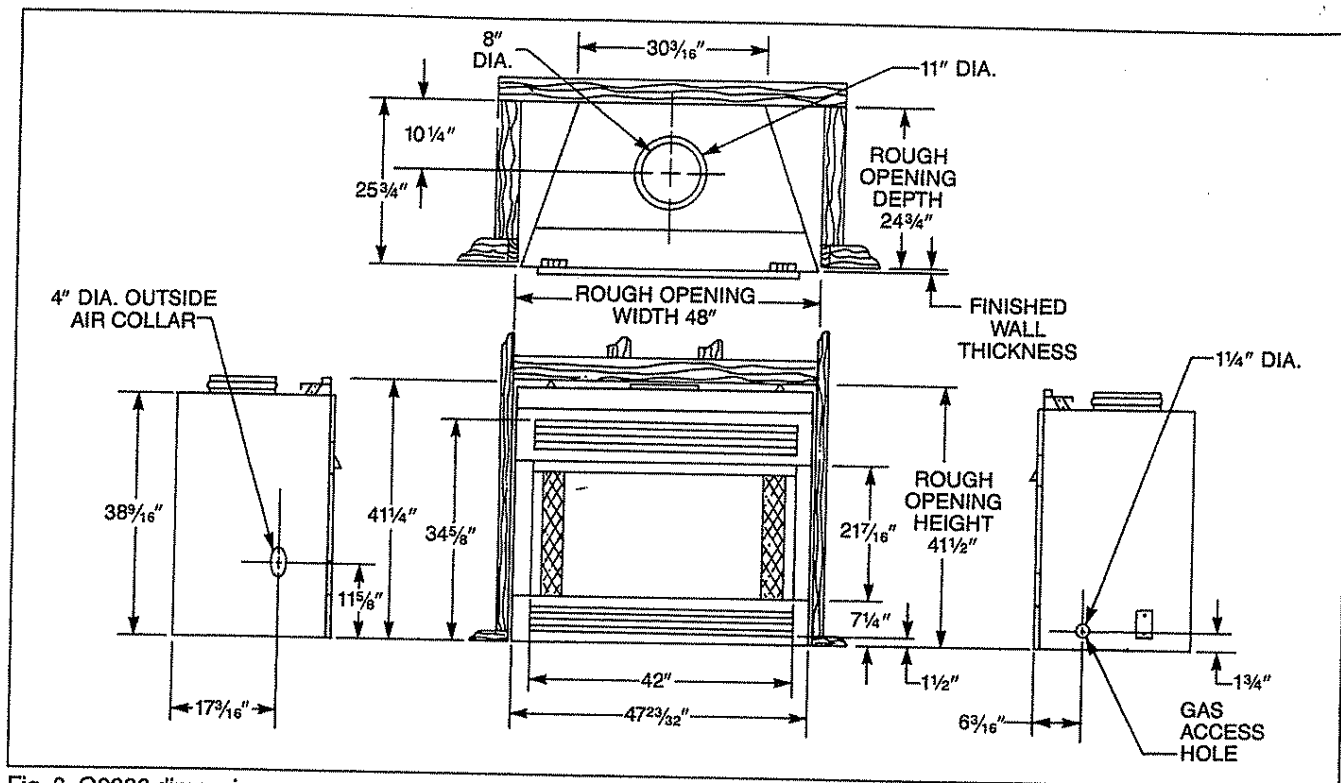

Fig. 3. G2000 dimensions.
Step 3. Build framing. The fireplace framing should be constructed of 2 x 4 lumber or heavier. Refer to Fig. 3, for basic fireplace dimensions that will affect the framing dimensions.